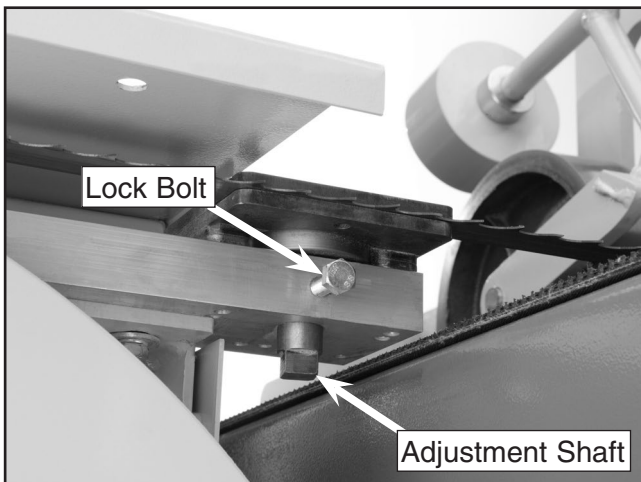

Figure 58. Support wheel components.
1. Loosen the lock bolt shown in **Figure 58**.